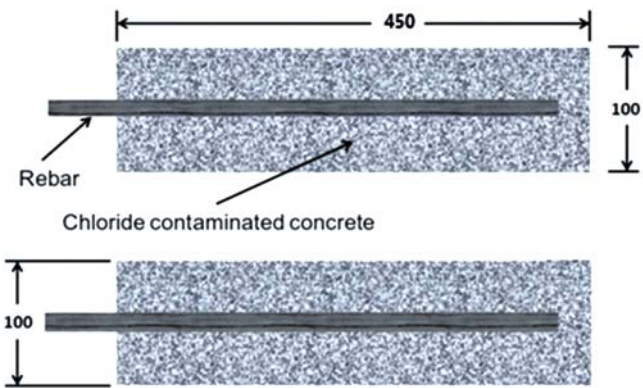
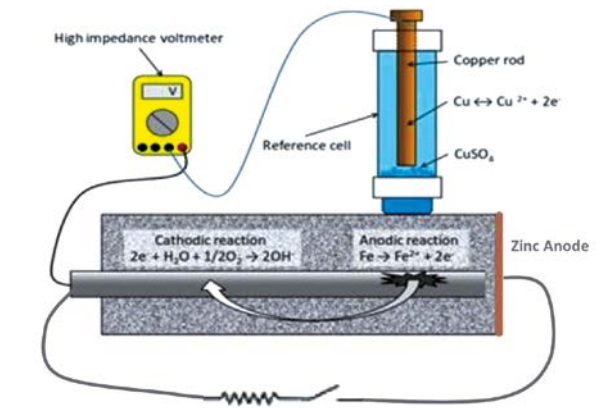

Figure 1 - Schematic of concrete samples for checking corrosion and applying cathodic protection.
Figure 2 - Schematic of how to measure corrosion potential and read CP parameters on samples.
The samples were prepared with dimensions of 450 x 100 x 100 mm, as illustrated in **Figure 1**. Each concrete beam sample contained a deformed steel rebar with a 10 mm diameter positioned centrally. To eliminate corrosion, one end of each rebar was coated with epoxy, leaving 400 mm of the rebar length exposed to the concrete. Portland cement was used for the concrete mix, with the proportions detailed in **Table 1**. Sodium chloride (NaCl) was added to the mixing water to introduce chloride ions (Cl⁻) into the concrete mix, achieving Cl⁻ concentrations of 0% (standard sample), 0.6%, and 1.2% by weight of binder. These chloride levels simulate corrosion damage typical of marine environments. Subsequently, cathodic protection (CP) was applied using a surface-applied zinc sheet sacrificial anode attached to the side surface of each sample. The steel rebar was connected to the anode with a copper wire to apply the galvanic cathodic protection system. CP parameters, including ON-potential and Instant-OFF potentials were measured at the same distances after 210 days from the preparation of the samples. Temperature and humidity conditions at the sample installation site were recorded. **Figure 2** schematically shows the circuit used and the method of potential measurement during this research.